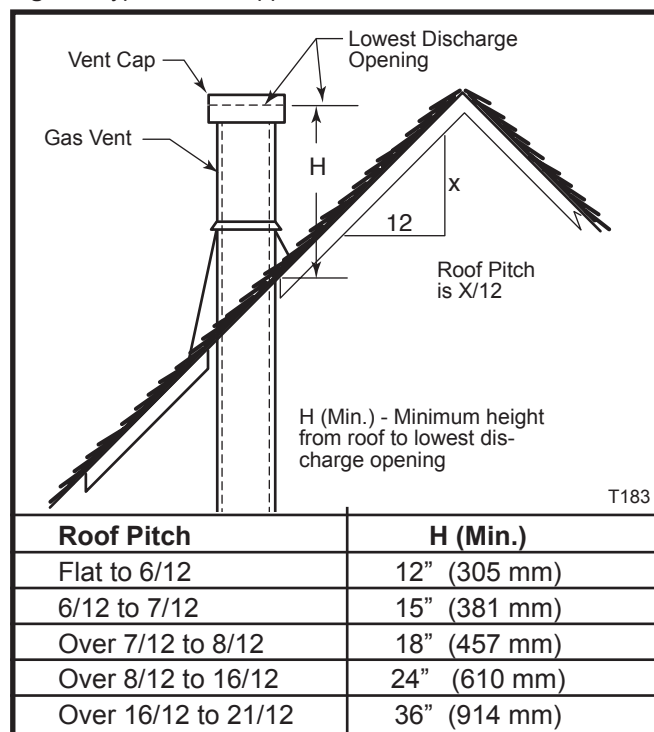

Fig. 14 Vertical termination location.
- The minimum height of the vent above the highest point of penetration through the roof is 2' (61mm). (Fig. 14)